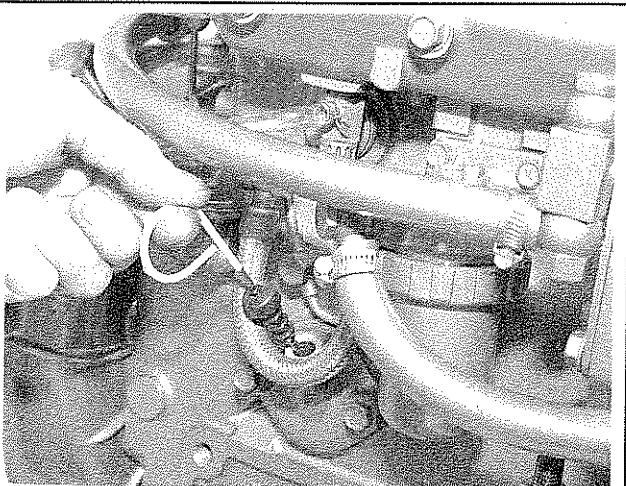

Fig. 13 To check the engine oil level, pull the dipstick from the tube, wipe it clean, then reinsert it to obtain a reading
▶ See Figures 13, 14, 15 and 16